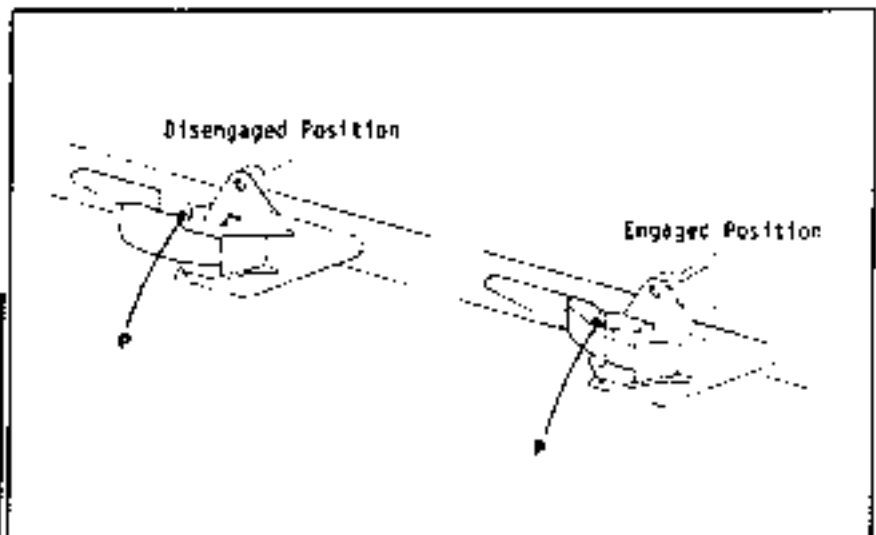

Fig. 4-28 Engaging Manual Lockouts
Step 16: Refer to Fig. 4-28. With tip section of boom fully extended, remove pins at "P" from both lockout mechanisms. Swing lockout arms into engaged position behind stops on boom tip section. Replace pins at "P" behind lockout arms to hold arms in against boom. Replace both keeper pins.
- Step 4: Disengage manual lockouts at the top of the boom middle section. Refer to Fig. 4-28.